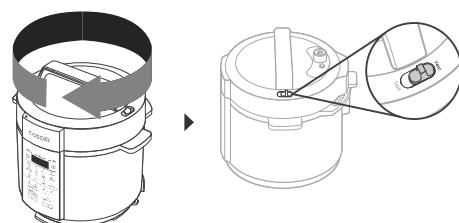

Figure 9.2
2. Close the lid on the pressure cooker and turn clockwise to secure. Move the steam release switch to 'Vent'. [Figure 9.2]